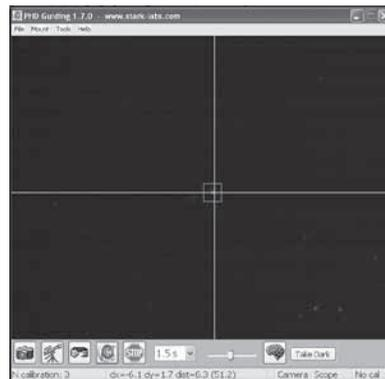

Figure 10. Yellow crosshairs appear once the calibration begins. The process is automatic. The crosshairs turn green when guiding begins.
- Click the **PHD Guide** icon and the calibration will begin (Figure 10). The rest is automatic! Yellow crosshairs are displayed around the guide star box when the calibration starts. The calibration is automatic and takes a few minutes. When the calibration is complete, the autoguiding begins automatically and the crosshairs turn green. You are now ready to take astro-images with precise tracking!